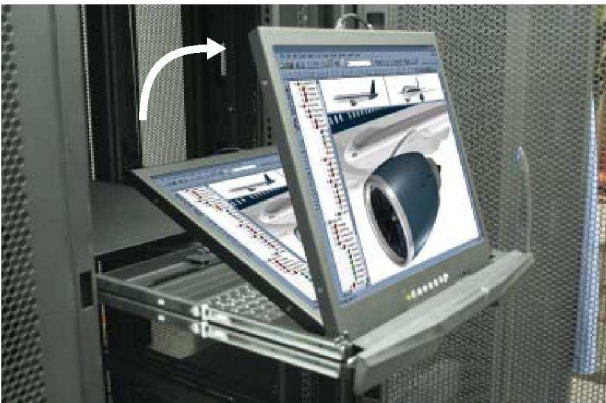

Figure 2. Flipping up the LCD to a suitable angle.
- Flip up the LCD to a suitable angle shown in Figure 2.